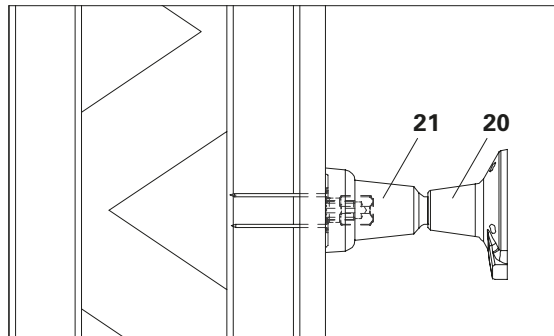

Fig. A5.06
2. Tightly screw pre-assembled ties (**20 + 21**) onto Anchor Posit. Stud M24 (**22**) and tighten. (Fig. A5.06)